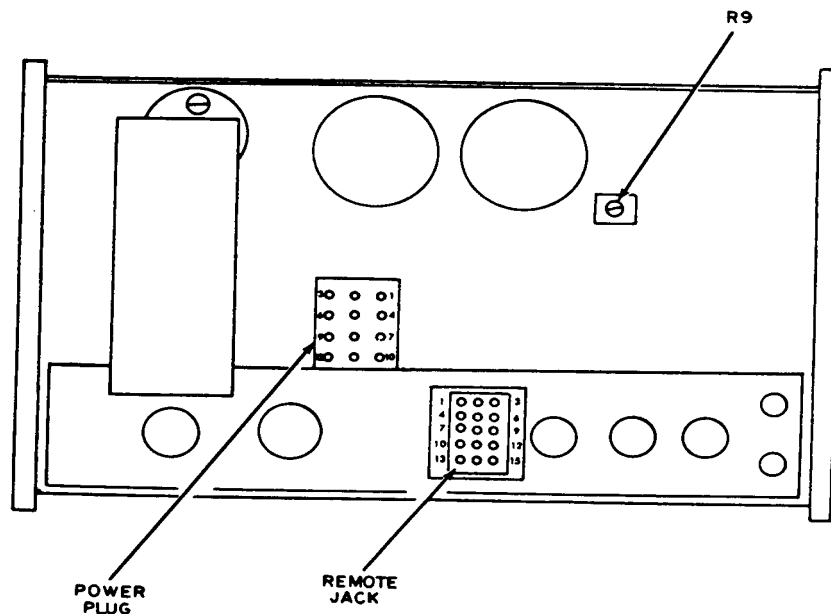

Figure 5. Power supply - (rear view).
Remove TI top cover, left side panel, and M2H module cover before starting performance checks (see figure 5 for location of monitoring points and adjustments).
- (1) Connect digital voltmeter to pin 6 on power plug and chassis ground (fig. 5).
- (2) If digital voltmeter does not indicate between +17.90 and +18.10 V dc, perform **b(1)** below.
- (3) Connect digital voltmeter to pin 4 on power plug and chassis ground (fig. 5).
- (4) Digital voltmeter will indicate between -17.50 and -18.50 V dc.
- (5) Connect digital voltmeter to pin 5 on power plug and chassis ground (fig. 5).
- (6) Digital voltmeter will indicate between -19.70 and -20.3 V dc.
- (7) Connect digital voltmeter to pin 3 on the remote jack and chassis ground (fig. 5).
- (8) Digital voltmeter will indicate between -15.90 and -16.10 V dc. Record indication.
- (9) Connect digital voltmeter to pin 2 on the remote jack and chassis ground (fig. 5).
- (1) Adjust R9 (fig. 5) until digital voltmeter indicates +18 V dc (R).
(1) Connect oscilloscope No. 1 to pin 2 of remote jack and chassis ground. Record exact amplitude (fig. 5).
(2) Connect oscilloscope to pin 3 of remote jack and chassis ground. Record exact amplitude (fig. 5).
(3) Connect oscilloscope to pin 10 of remote jack and chassis ground (fig. 5).
(4) If the positive and negative peaks do not agree precisely with recordings in (2) and (3) above, perform **b** below.
(5) Connect oscilloscope to pin 15 of remote jack and chassis ground (fig. 5).
(6) If the positive and negative inverted peaks do not agree precisely with recordings in (2) and (3) above, perform **b** below.
(1) Connect oscilloscope to pin 10 of remote jack and chassis ground (fig. 5).
(3) Connect oscilloscope to pin 15 of remote jack and chassis ground (fig. 5).